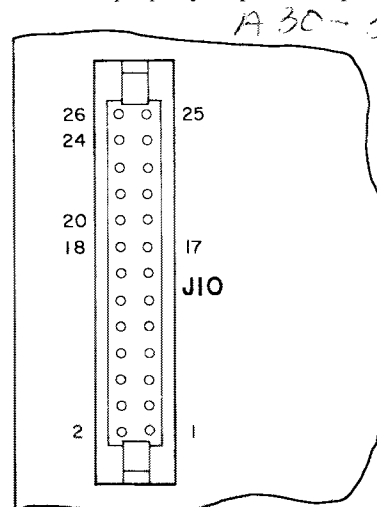

Fig. 26 — Display Board Connector
STEP 7 — DISPLAY BOARD CONNECTION CHECK-OUT — Turn power OFF and *disconnect ribbon cable*. Connect the negative test lead to TP18 on the processor board. Turn power on. You should get the following voltages at connector J10 (see Fig. 26):